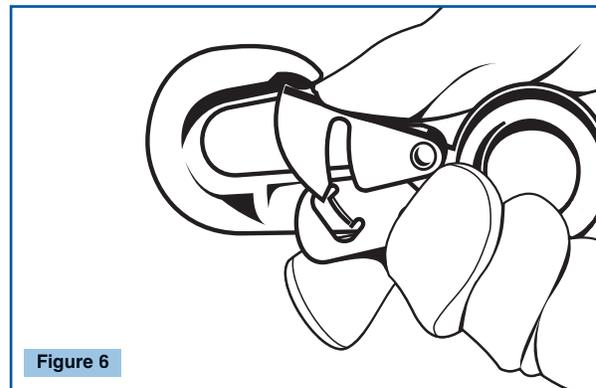

Figure 6
6. **Inspect the snap-hooks and connecting hardware** to be sure they are not distorted or cracked. Be certain the snap-hook keepers are free of burrs, function properly, and are clean and not bent. (See Fig. 6)